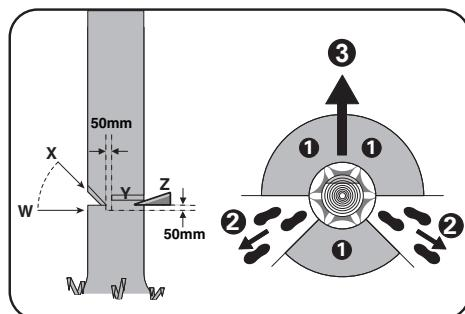

Figure 1
necessary before cuts are started. The escape path should extend back and diagonally to the rear of the expected line of fall as illustrated in Figure 1.
Make the notch 1/3 the diameter of the tree, perpendicular to the direction of falls as illustrated in Figure 1. Make the lower horizontal notching cut (W) first. This will help to avoid pinching either the saw chain or the guide bar when the second notch (X) is being made.
Make the felling back cut (Y) at least 50 mm higher than the horizontal notching cut as illustrated in Figure 1. Keep the felling back cut parallel to the horizontal notching cut. Make the felling back cut so enough wood is left to act as a hinge. The hinge wood keeps the tree from twisting and falling in the wrong direction. Do not cut through the hinge.
When the tree begins to fall remove the Chainsaw from the cut, stop the motor, put the Chainsaw down, then use the retreat path planned (②). Be alert for overhead limbs falling and watch your footing. (See Figure 1)